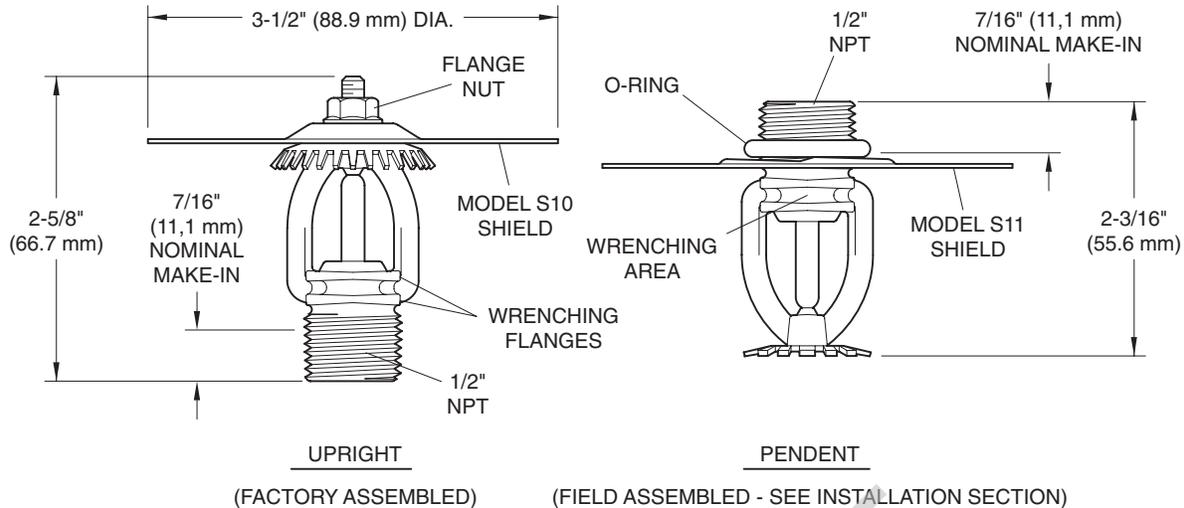
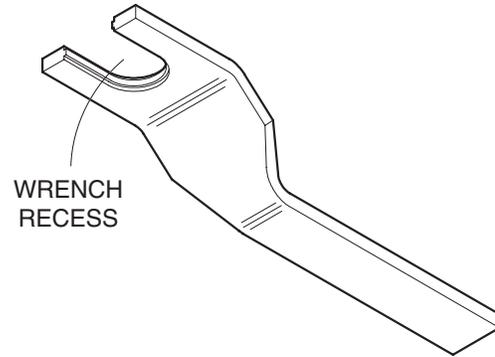

FIGURE 1
FIGURE 3
Physical Characteristics (Ref. Figure 1)
The S10 and S11 Shields are fabricated from carbon steel and are furnished zinc coated with a clear chromate finish. In the case of the pendent assembly, the S11 Pendent Shield and O-Ring shown in Figures 1 and 2 are field assembled to the Star Galaxy SG Pendent Sprinkler. The O-Ring forms a water seal when it is slightly compressed between the Shield and sprinkler fitting. In the case of the upright assembly shown in Figures 1 and 2, the S11 Upright Shield is factory assembled to the Star Galaxy SG Upright Sprinkler with a Flange Nut that is secured in position with an adhesive.
Step 2. Tighten the sprinkler into the sprinkler fitting using only the W-Type 9 Sprinkler Wrench (Ref. Figure 3), except that an 8 or 10 inch adjustable Crescent wrench is to be used for wax coated sprinklers. With reference to Figure 1 or 2, the W-Type 9 Sprinkler Wrench is to be ap-
Step 4. Tighten the sprinkler into the sprinkler fitting using only the W-Type 9 Sprinkler Wrench (Ref. Figure 3), except that an 8 or 10 inch adjustable Crescent wrench is to be used for wax coated sprinklers. With reference to Figure 1 or 2, the W-Type 9 Sprinkler Wrench is to be applied to the sprinkler wrenching area, and the adjustable Crescent wrench is to be applied to the wrenching flanges.